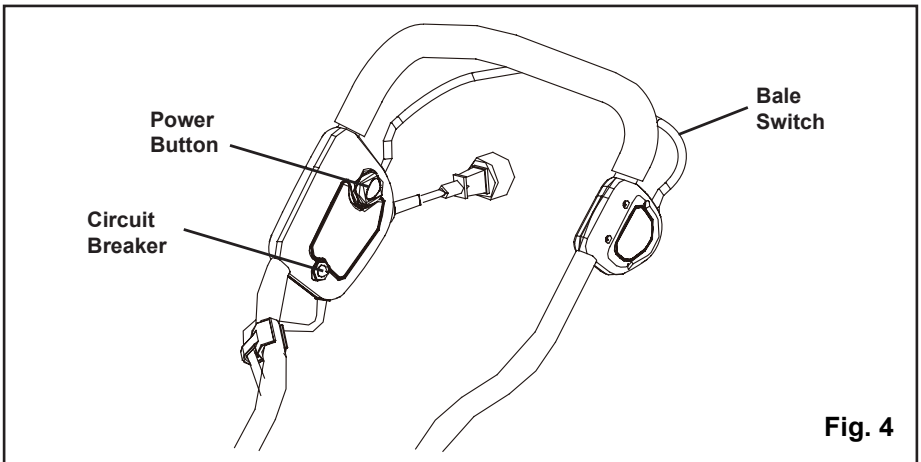

Fig. 4
STARTING AND STOPPING THE DETHATCHER (See Figure 4)
CIRCUIT BREAKER (See Figure 4)
- Press the circuit breaker in order to reset it. Resume operation (See Figure 4.)